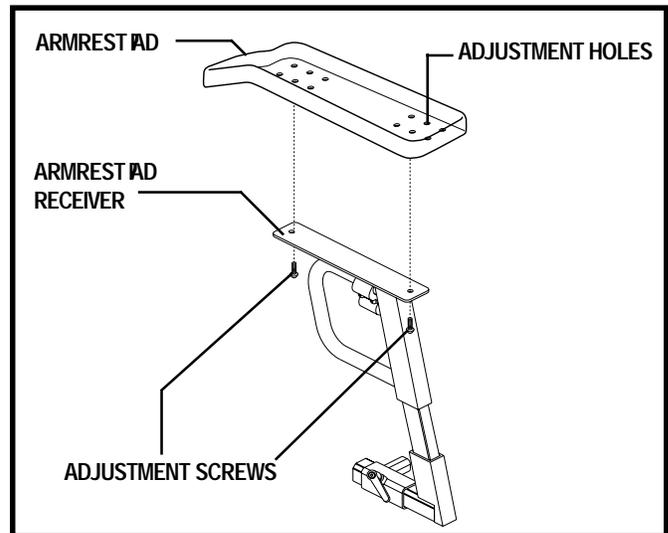

Figure 16. Armrest Pad Position Adjustment
1. Remove each adjustment screw from the underside front and back of the armrest pad. See figure 16.